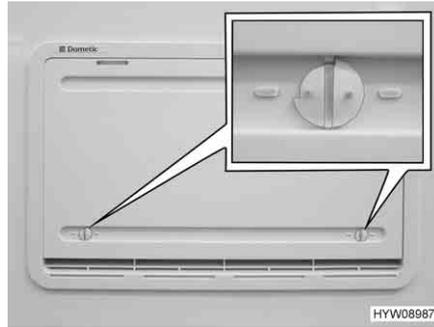

Fig. 193 Winter cover
If the refrigerator is to be operated at low external temperatures, the manufacturer recommends the use of a winter cover (Fig. 193) for the refrigerator ventilation grills.
- Open both locks (Fig. 193) (groove in horizontal position).